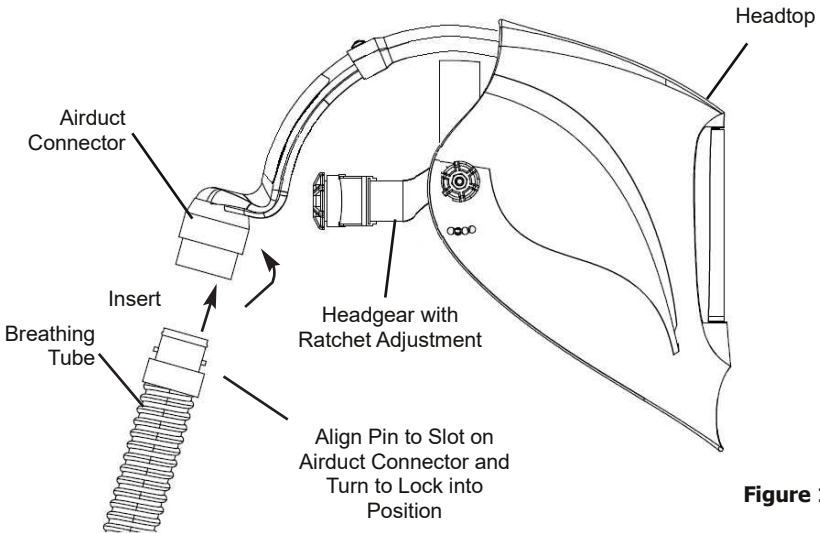

Figure 11
1. Install and lock the breathing tube into the airduct on the Headtop (Fig. 11).